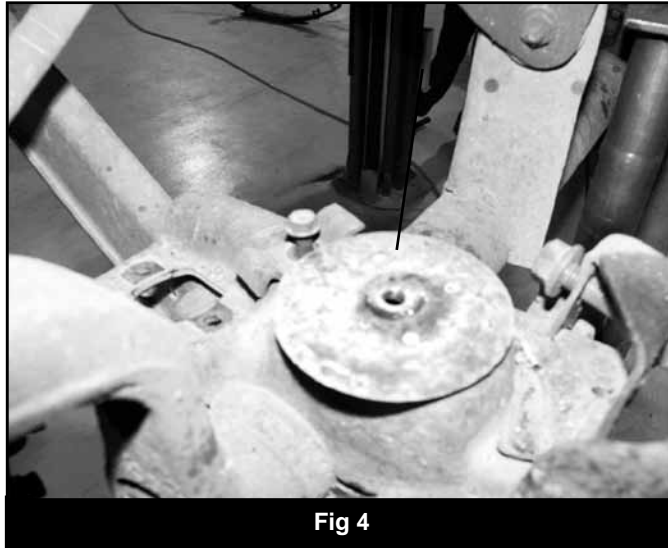

Fig 4
10. Locate and drill a 5/16" hole in the center of the front coil spring axle mount (Figure 4). Use a provided 3/8" x 1" self-tapping bolt (BP 439) to cut the threads in the hole for the bump stop extension. Remove the bolt and repeat on other side. Note: It is important to drill the hole using a 5/16" bit to allow the 3/8" self-tapping bolt to work properly. Be sure the 3/8" bolt is square to the axle mount when cutting the threads.